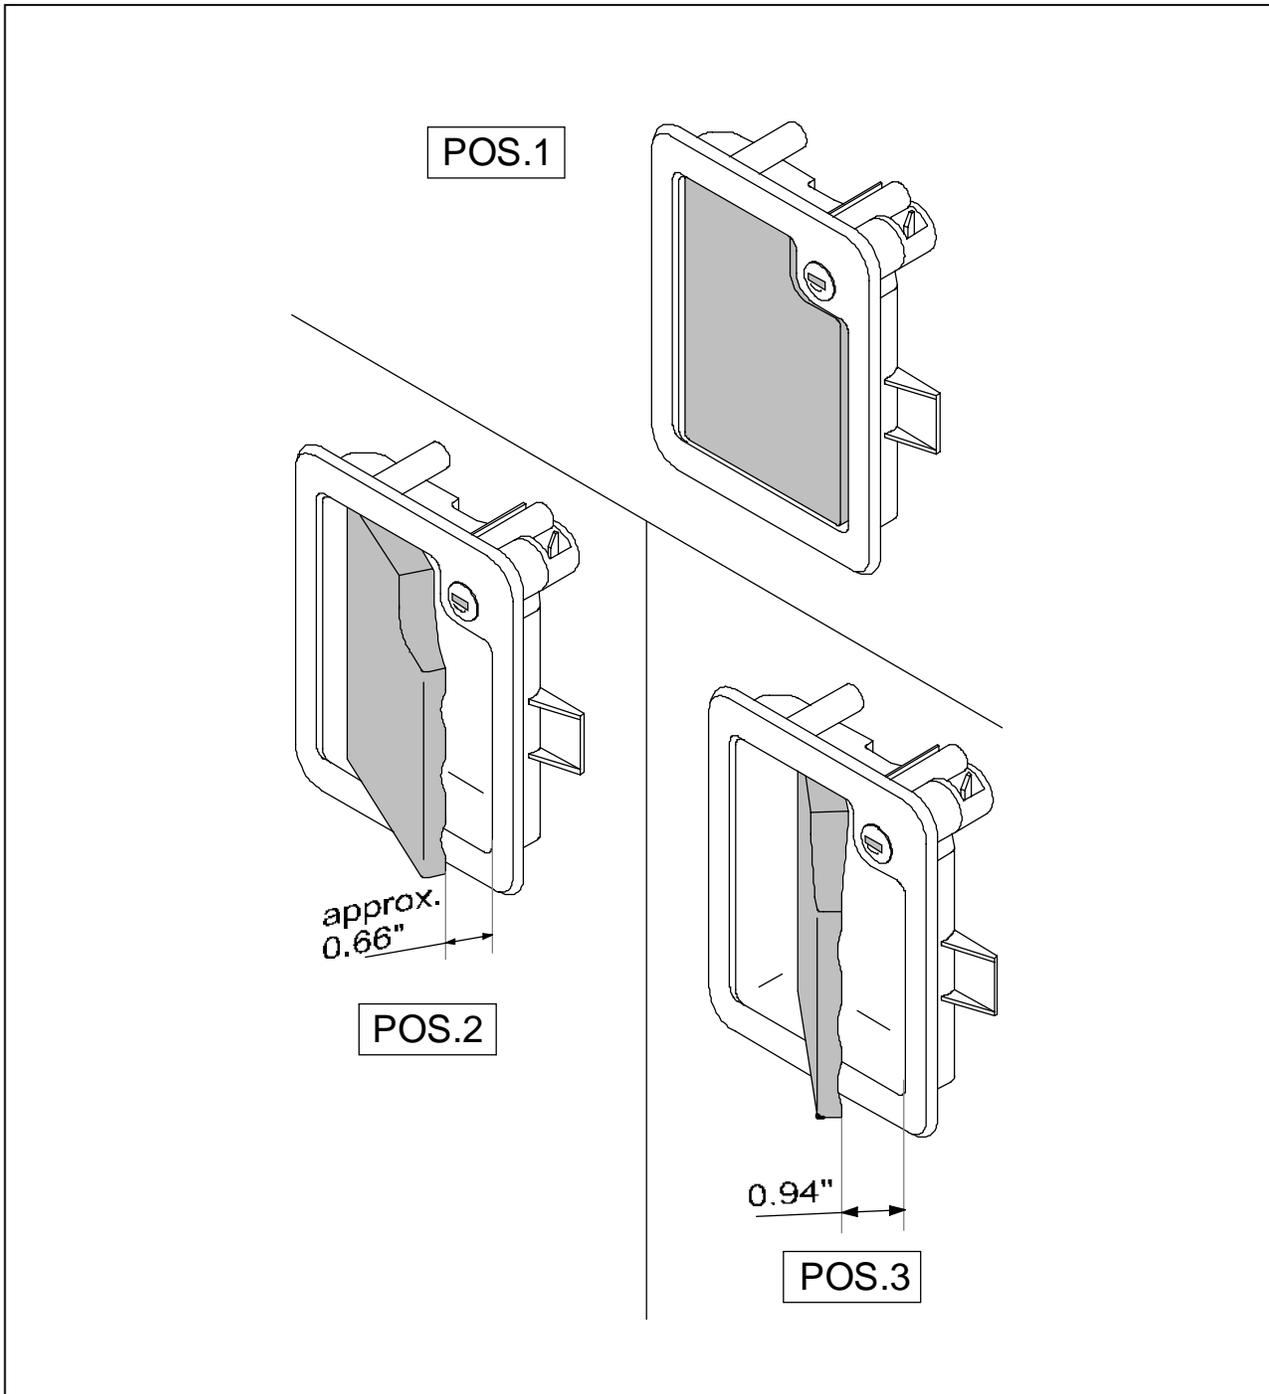

Figure 19: The three critical positions of the door lock paddle operation
- 1) Adjust rod VH 10765453 so that it is possible to easily slip your fingers behind the paddle of the door lock, without any of the rotary latches unlocking (position 2, Figure 19). The bottom latch should open between position two of the paddle and the full stop position (position 3, Figure 19), ie when the paddle butts against the door lock housing. Secure the turnbuckle with the jam nuts.
Figure 19 overleaf.